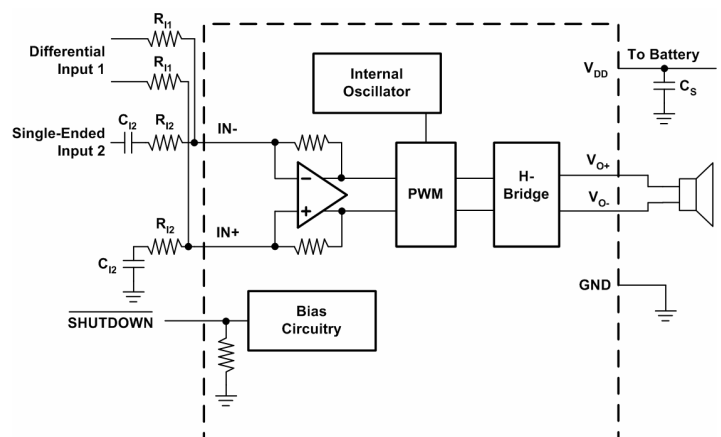

Figure 34. Application Schematic with EUA2011 Summing Input and Single-Ended Input Signals
Figure 34 shows how to sum a differential input signal and a single-ended input signal. Ground noise can couple in through IN+ with this method. It is better to use differential inputs. The corner frequency of the single-ended input is set by C_{I2} , shown in equation (8). To assure that each input is balanced, the single-ended input must be driven by a low-impedance source even if the input is not in use